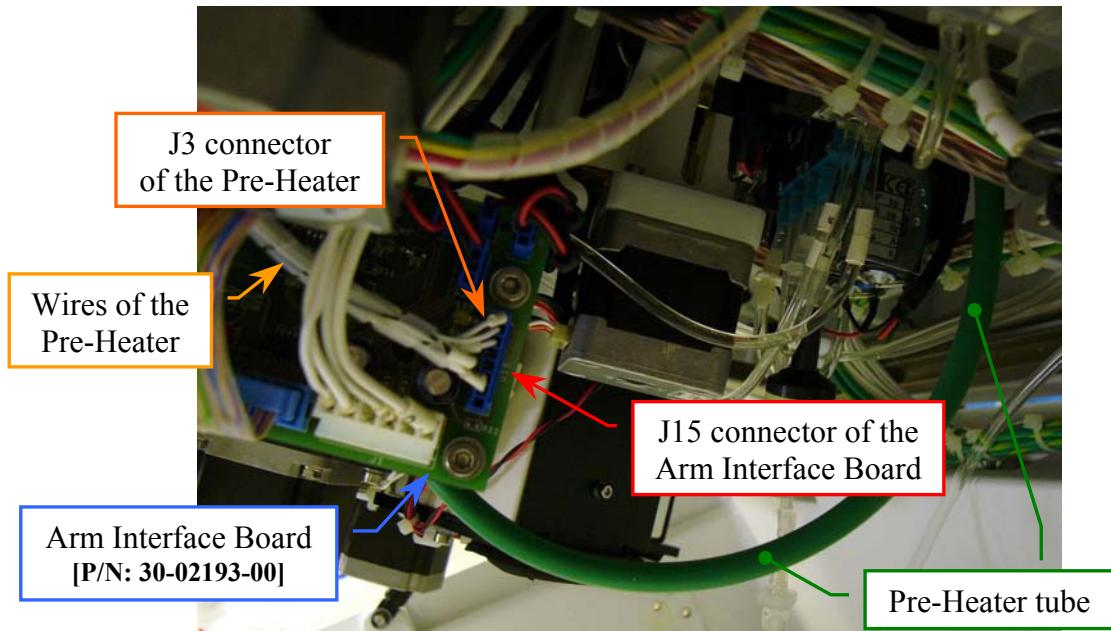

Fig. 46 – J15 connector of the Arm Interface Board
9. Unplug the J3 connector of the Pre-Heater from the J15 connector of the Arm Interface Board (compare the scheme SC-30-02193-00 and the **Fig. 46**).
17. Plug the J3 connector of the Pre-Heater in the J15 connector of the Arm Interface Board (compare the scheme SC-30-02193-00 and the Fig. 46).